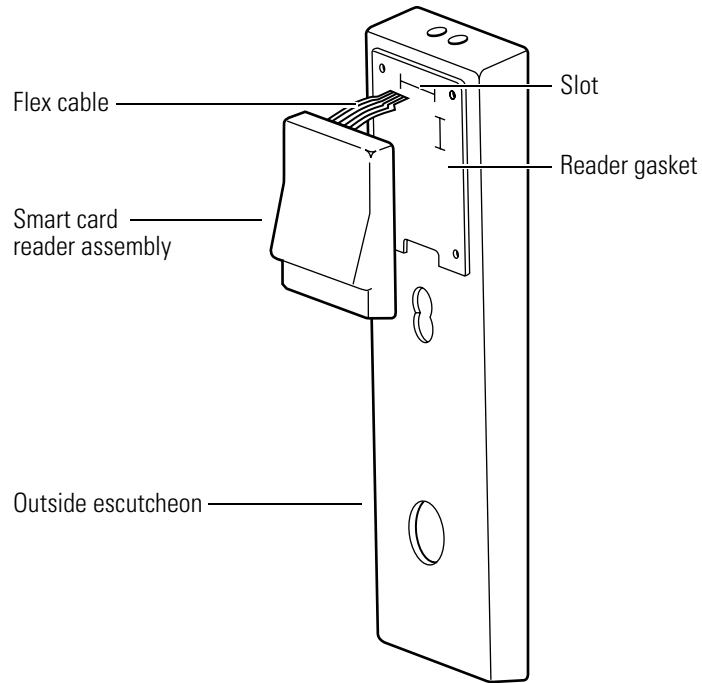

Figure 9.20 Positioning the smart card reader assembly
1. Orient the reader assembly and insert the flex cable through the slot in the outside escutcheon. See Figure 9.20.